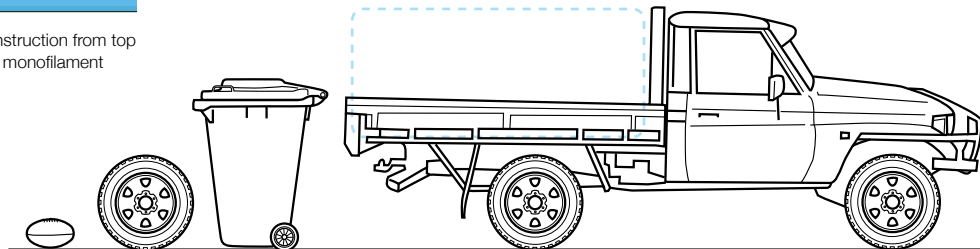

Figure 9: Size of a bundled net: football, tyre, wheelie bin or ute load.
**How big is the net?:** Imagine the net bundled up into a ball and estimate which of the four choices most closely matches in volume: a) football, b) Toyota tyre, c) wheelie bin or d) ute load (Figure 9).